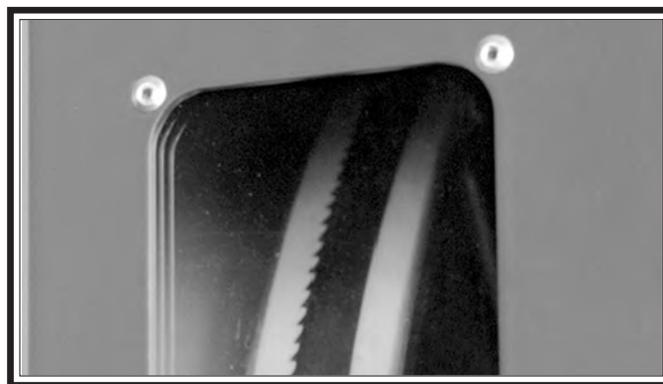

Figure 33. Example of blade, viewed through tracking window.
2. Observe blade tracking path through clear tracking window on right edge of bandsaw (see **Figures 33–34**).